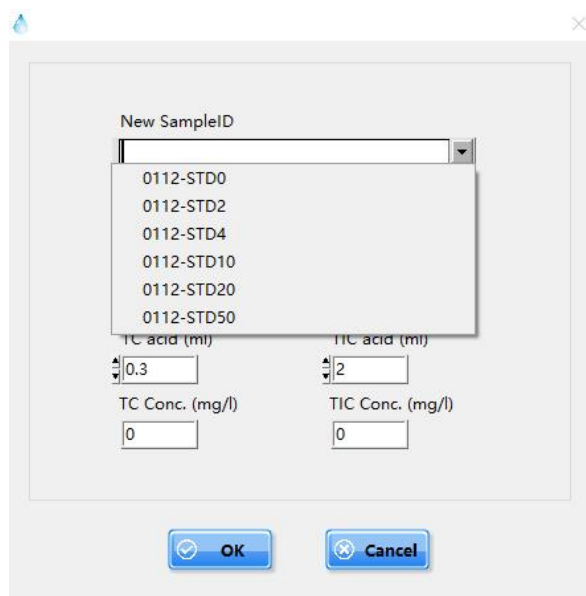

Fig 4.15
Step 5 Click the drop-down menu to select the registered standard sample. (Fig. 4.15). The cup number shall be set according to the sample position. 'Sample size', 'Minimum of times', 'Maximum of times', 'TC acid' and 'TIC acid' can be set and adjusted based on actual test requirements. For more details on setting, please refer to Chapter 5 Software Introductions.